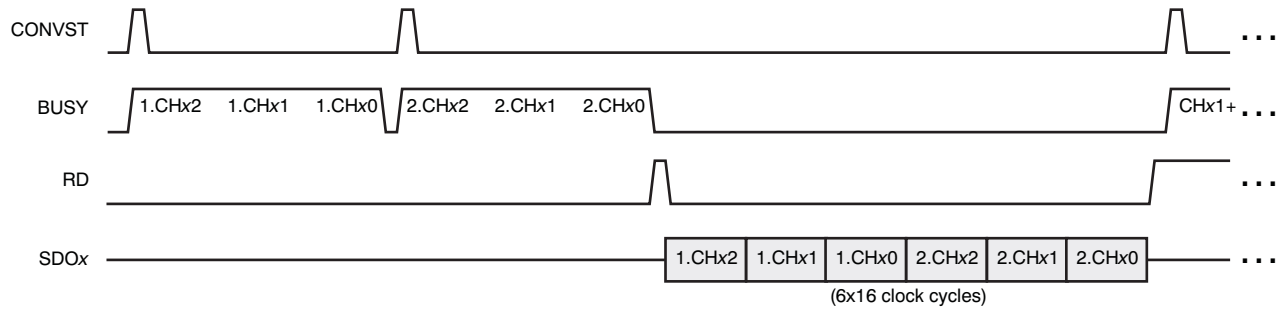

Figure 45. FIFO and Sequencer Operation Example
The ADS8363, ADS7363, and ADS7223 feature a programmable sequencer that controls the switching of the ADC input multiplexer in pseudo-differential, automatic channel-selection mode only. When used, a single read pulse allows reading of all stored conversion data. A single CONVST is required to control the conversion of the entire sequence. If the sequencer is used, CONVST and RD must be controlled independently (see Figure 44 and Figure 45).
**Bits [1:0] FD[1:0]—FIFO depth control (see Figure 45).**